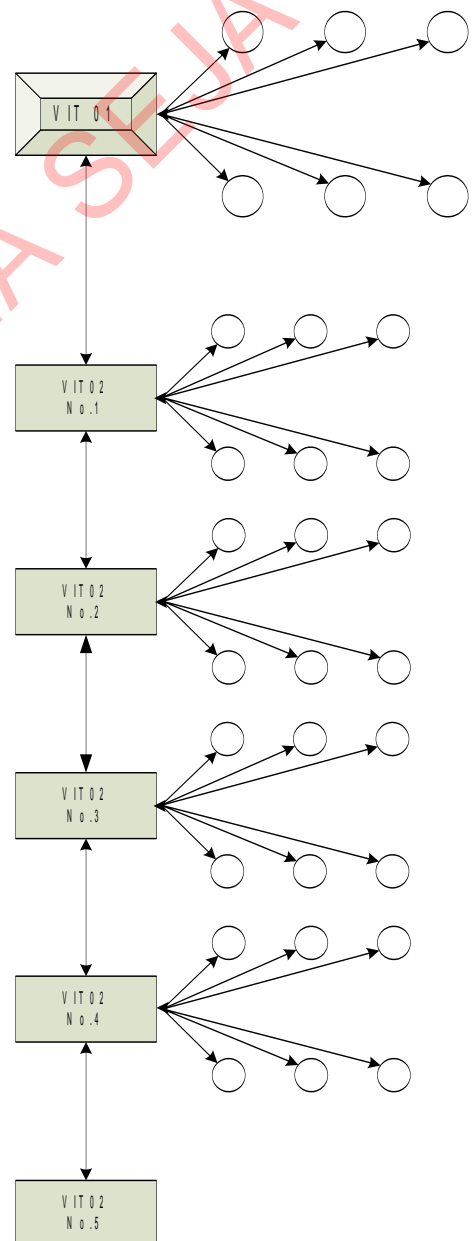

Fig.1.1
It is necessary before installation to define the structure of the radio network. On fig. 1.1, 1.2 and 1.3 are shown different types of connection.
In the first case (fig 1.1), 5 routers (controllers) are connected in series. Fire detectors are additionally connected to 4 of them and to the Control Panel. Fire detectors can not be connected to router (R) 5, due to the limitation – messages between the elements within the system can be retransmitted not more than 5 times.
As an example, consider the establishing of the system in Figure 1.1. In the following order: